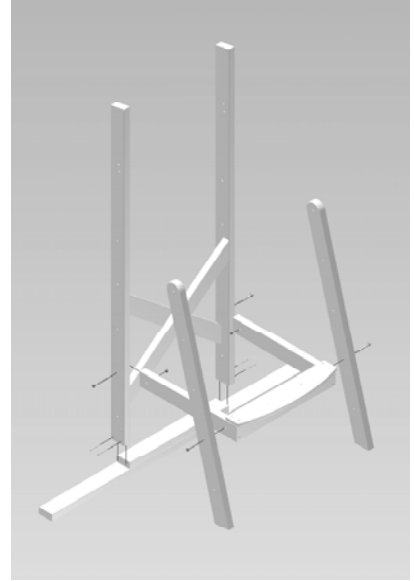

Fig. 3
Step 1) Holding it securely, drill Four (4) 7/64" pilot holes through the Center Leg Assembly ("B") into the Lower Frame Assembly ("A"). Attach the two together by using Four (4) 2 1/2" Square Drive Recessed Head Screws. **See Figure 3.**
Loose assemble the Step Assembly ("E") to the two Front Legs and to the Center Leg Assembly ("B") by using Four (4) 5/16-18 x 3 1/2" S.S. Hex Head Bolts, Four (4) 5/16" S.S. Flat Washers, and Four (4) 5/16" S.S. Nylock Hex Nuts. (Note: These are bolted through the second hole up from the bottom). **See Figure 3.**